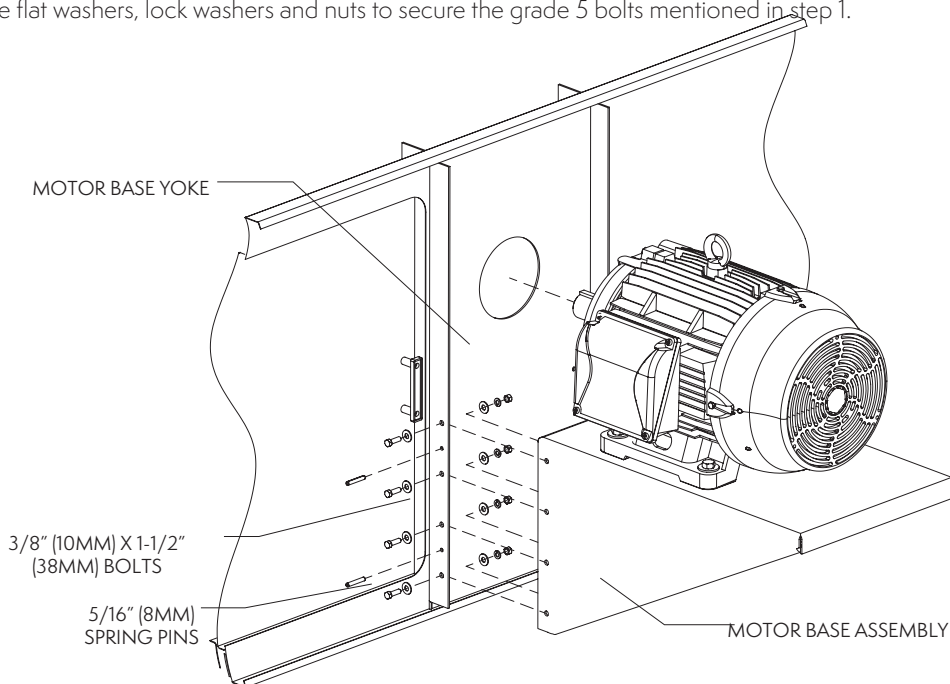

Figure 21 – External Motor Installation for Gear Drive Applications
1. Mount the motor base assembly to the motor base yoke using (4)* 3/8" (10mm) x 1-1/2" (38mm) grade 5 bolts on each side of the motor base assembly. Do not fasten any hardware until step 2 is complete.
2. In addition to the grade 5 bolts, install (2) 5/16" (8mm) spring pins on each side of the motor base assembly as shown in **Figure 21**.